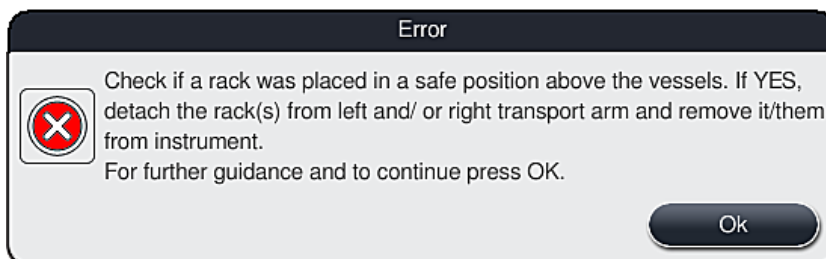
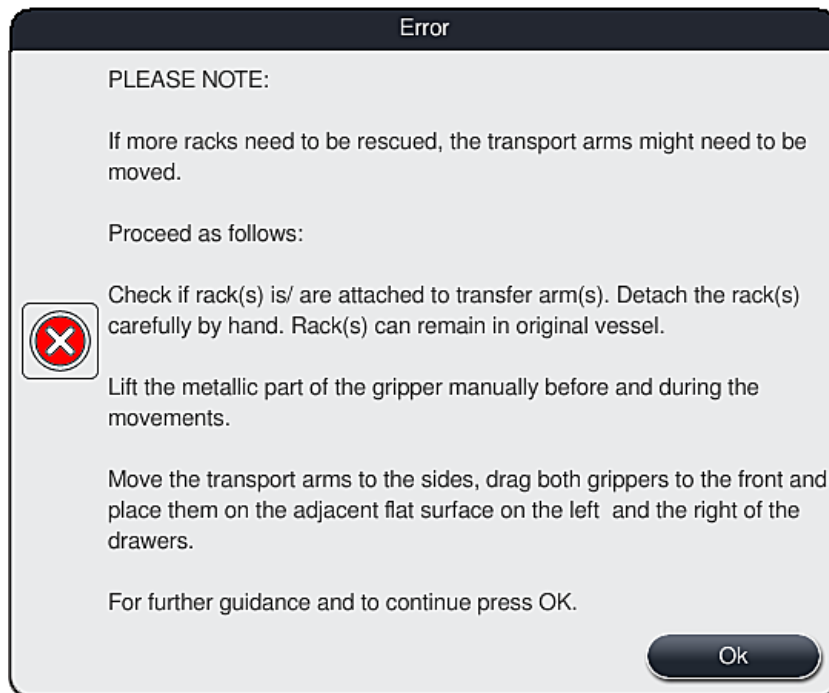

Fig. 107
Fig. 108
2. Subsequently, this messages prompts the user to check (→ "Fig. 107") whether or not the instrument has placed one or two racks in a secure position between two reagent vessels (→ "Fig. 103").
3. After pressing the "OK" button (→ "Fig. 107"), another messages appears (→ "Fig. 108") that provides the user with instructions regarding the correct procedure for removing the respective racks.